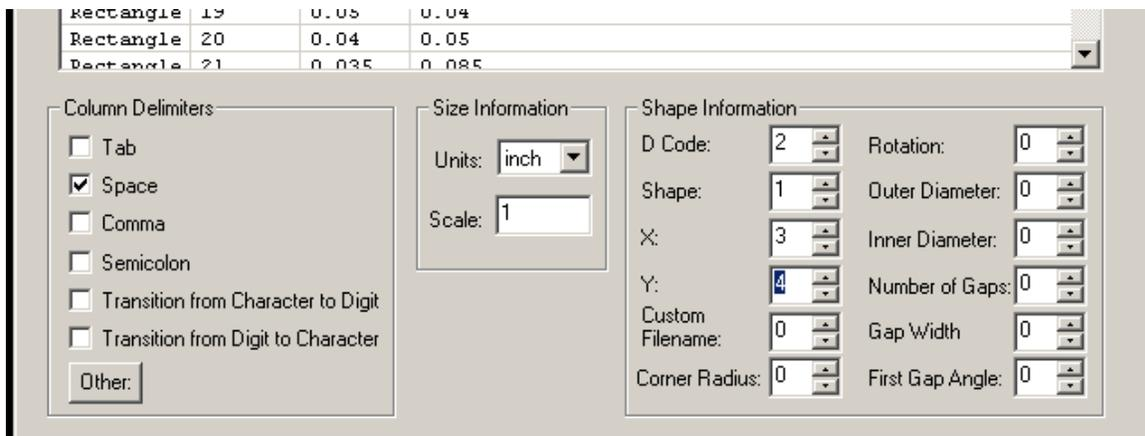

Figure 12: Tool Table Assistant
- Enter the values (as shown in Figure 12) to correctly assign different fields to their correct value. The delimiter in this case is whitespace (i.e. whitespace separates different fields) and the field number for each value can be easily seen. Take care to ensure that units are correctly set to inches.